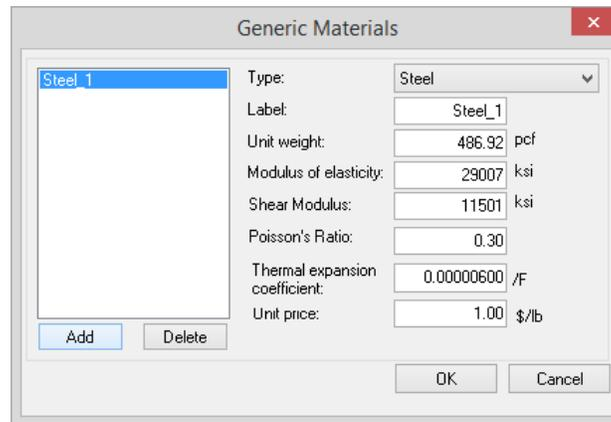

Figure 6.1-5 - Steel_1 Material Definition
- In the pull-down list, select Steel and then select Add at the bottom left below the material entry box. Use the same label and properties as shown in **Fig 6.1-5**.